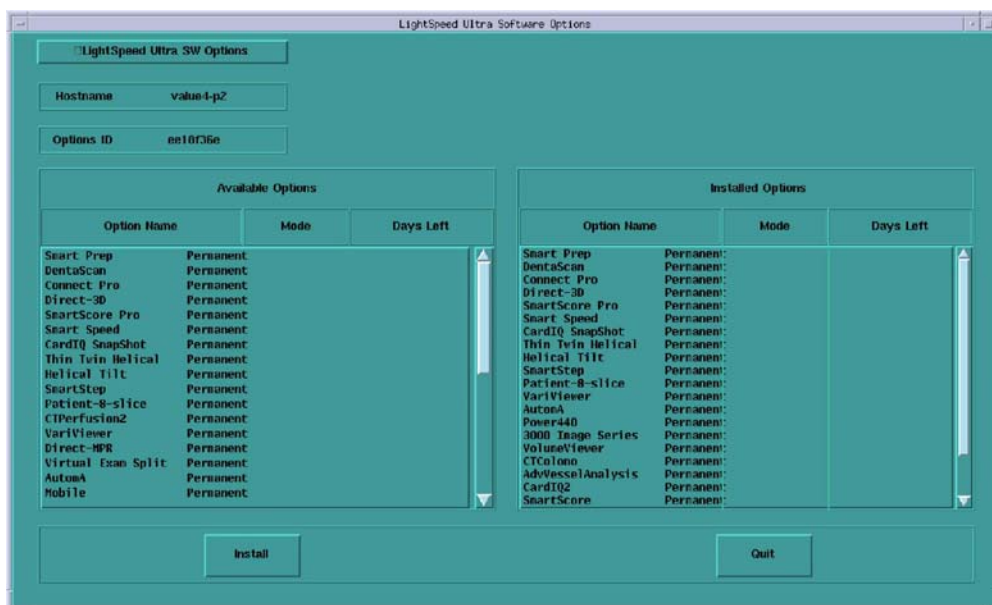

Figure 1-22 Software Options screen
- 8.) Click OK. Available options appear on the Software Options screen (Figure 1-22).